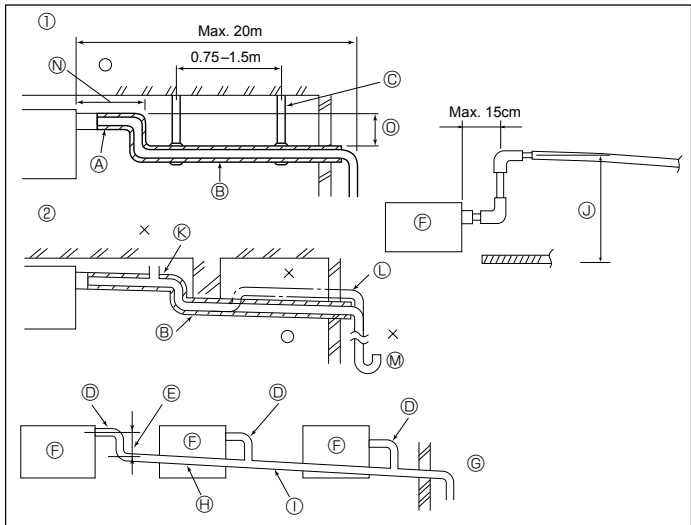

Fig. 3-4
3.3. Drainage piping work (Fig. 3-4)